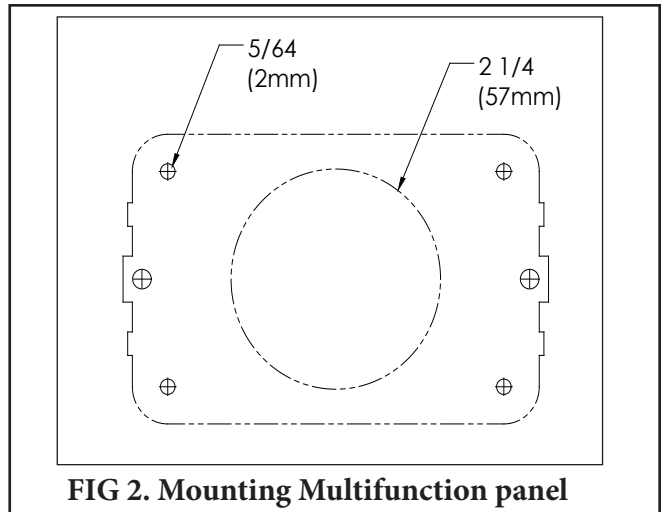

FIG 2. Mounting Multifunction panel
1. Cut out a hole per Fig. 2, mark mounting holes using wall plate as guide.